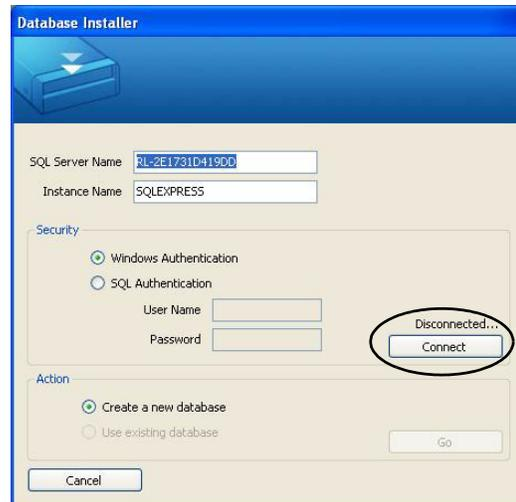

Figure 3. Database Installer screen (disconnected)
3. Follow the on-screen steps until you reach the Database Installer shown in Figure 3.